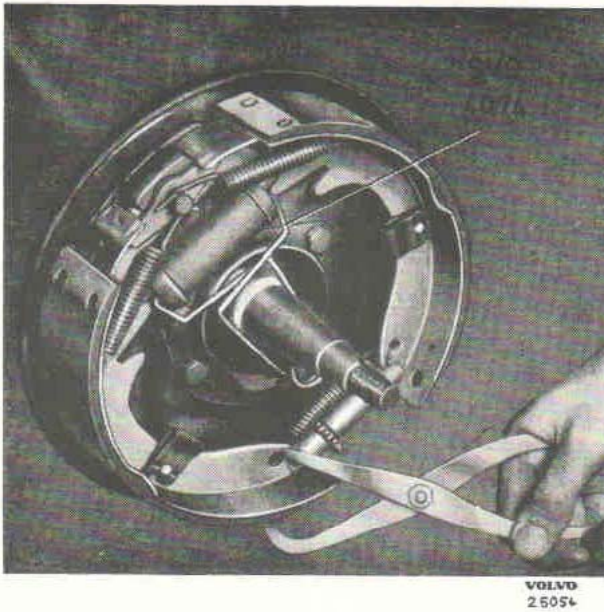
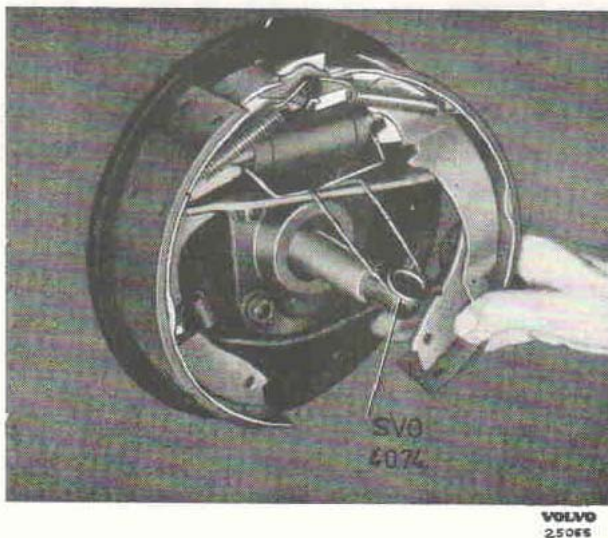

Fig. 27. Removing the locking spring.
Fig. 28. Removing the brake shoe.
3. Place the clip SVO 4074 as shown in Fig. 27 so that the plungers in the wheel unit cylinder cannot be pressed outwards. The procedure for removing the shoes depends on which tool is used.
The locking spring is disconnected with the help of the brake spring pliers as shown in Fig. 27. Pull apart the shoes and remove the adjusting device. Hold against the guide pin on the back of the brake backing plate and remove the retaining clip. Turn the shoe outwards until the plunger rod of the wheel unit cylinder is released, see Fig. 28. Then turn the shoe inwards until the return spring can be disconnected and the shoe lifted off. Remove the other shoe in the same way.
With the help of brake spring pliers, the locking spring is disconnected, see Fig. 27. Pull apart the shoes and remove the adjusting device. Hold against the guide pin on the back of the brake backing plate and remove the retaining clip for the rear shoe. Turn the shoe outwards until the plunger rod of the wheel unit cylinder and handbrake link are released, see Fig. 28. Then turn the shoe inwards until the return spring can be disconnected and the shoe lifted off. Remove the other shoe in the same way.